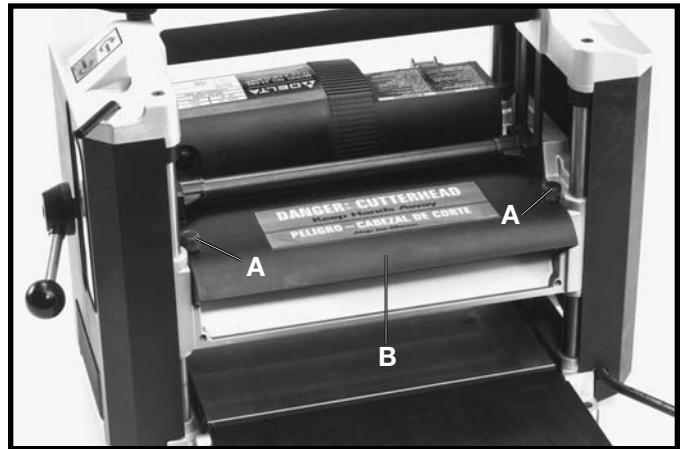

Fig. 24
2. Remove two screws (A) Fig. 24, and remove cutterhead guard (B) by pulling it straight out.